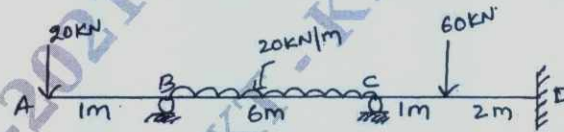

Fig. Q3
- 3 Analyze the continuous beam by moment distribution method shown in Fig. Q3. The support 'C' sinks by 9 mm. Take $EI = 1000 \text{ kN-m}^2$. Draw BMD and Elastic curve. (16 Marks)